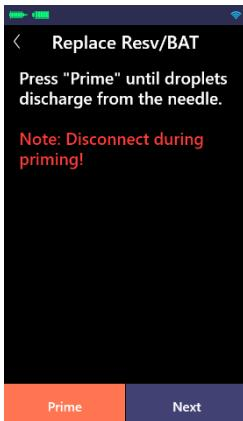

Figure A.8.3
(3) Prime. Press or click "Prime" until droplets discharge from the needle and then click "Next" (as shown in Figure A.8.3).